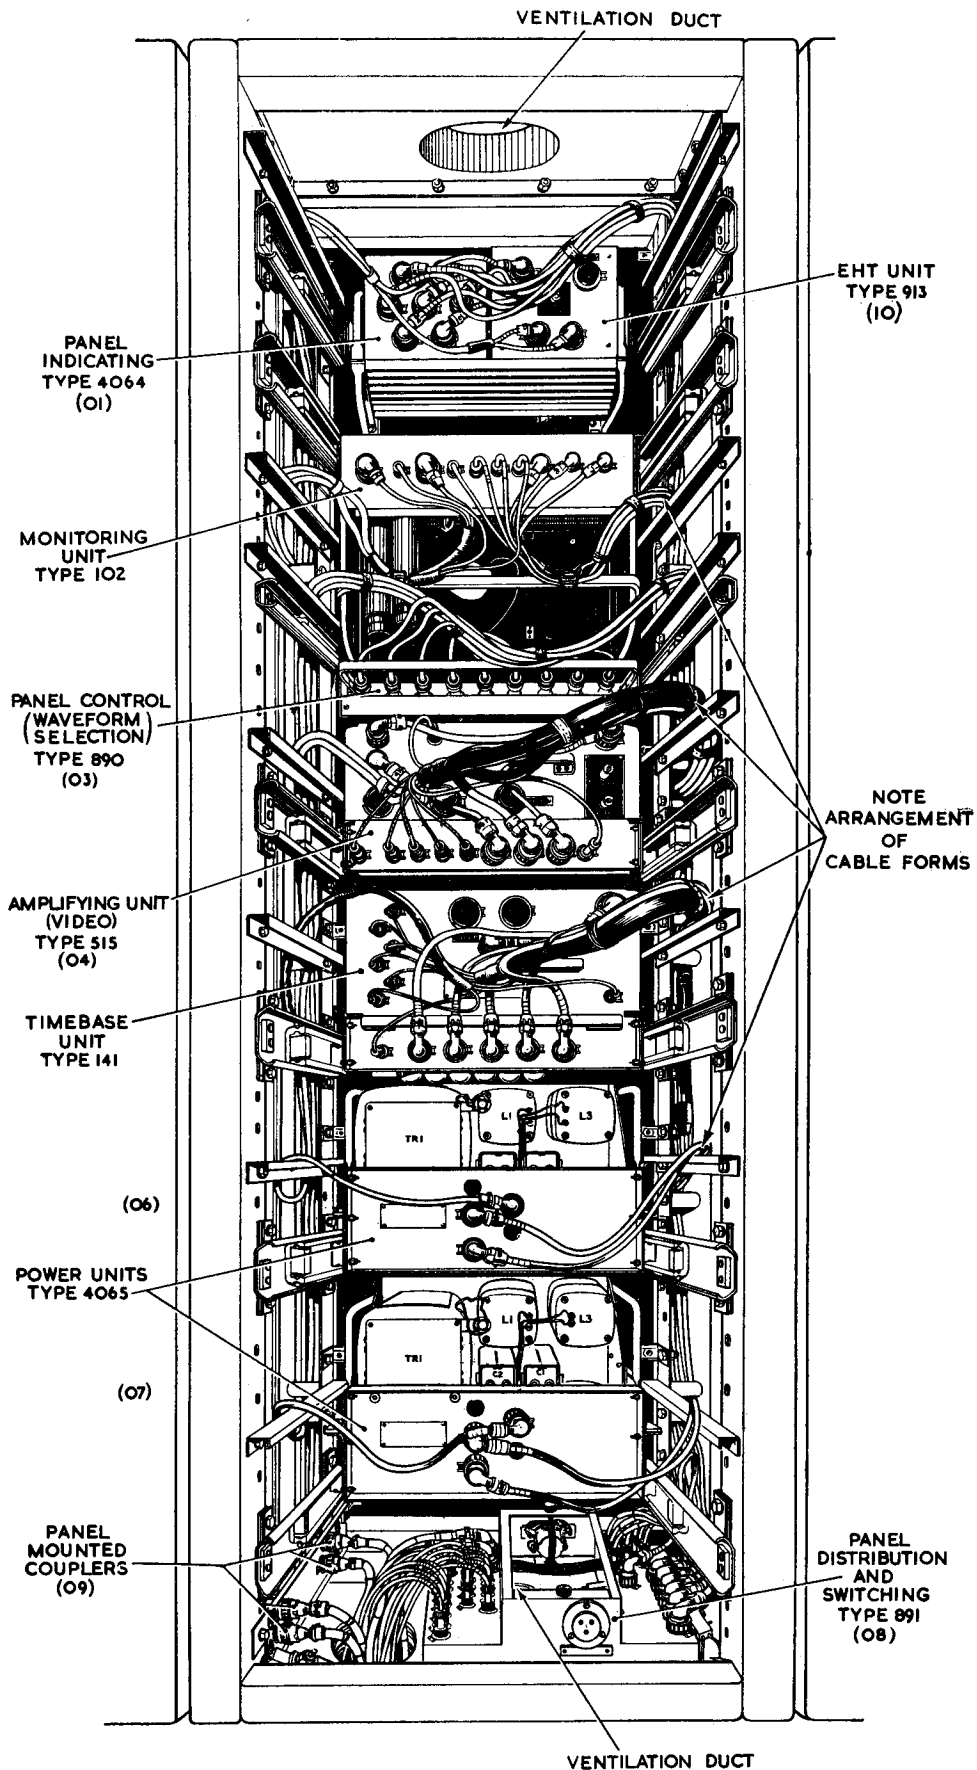
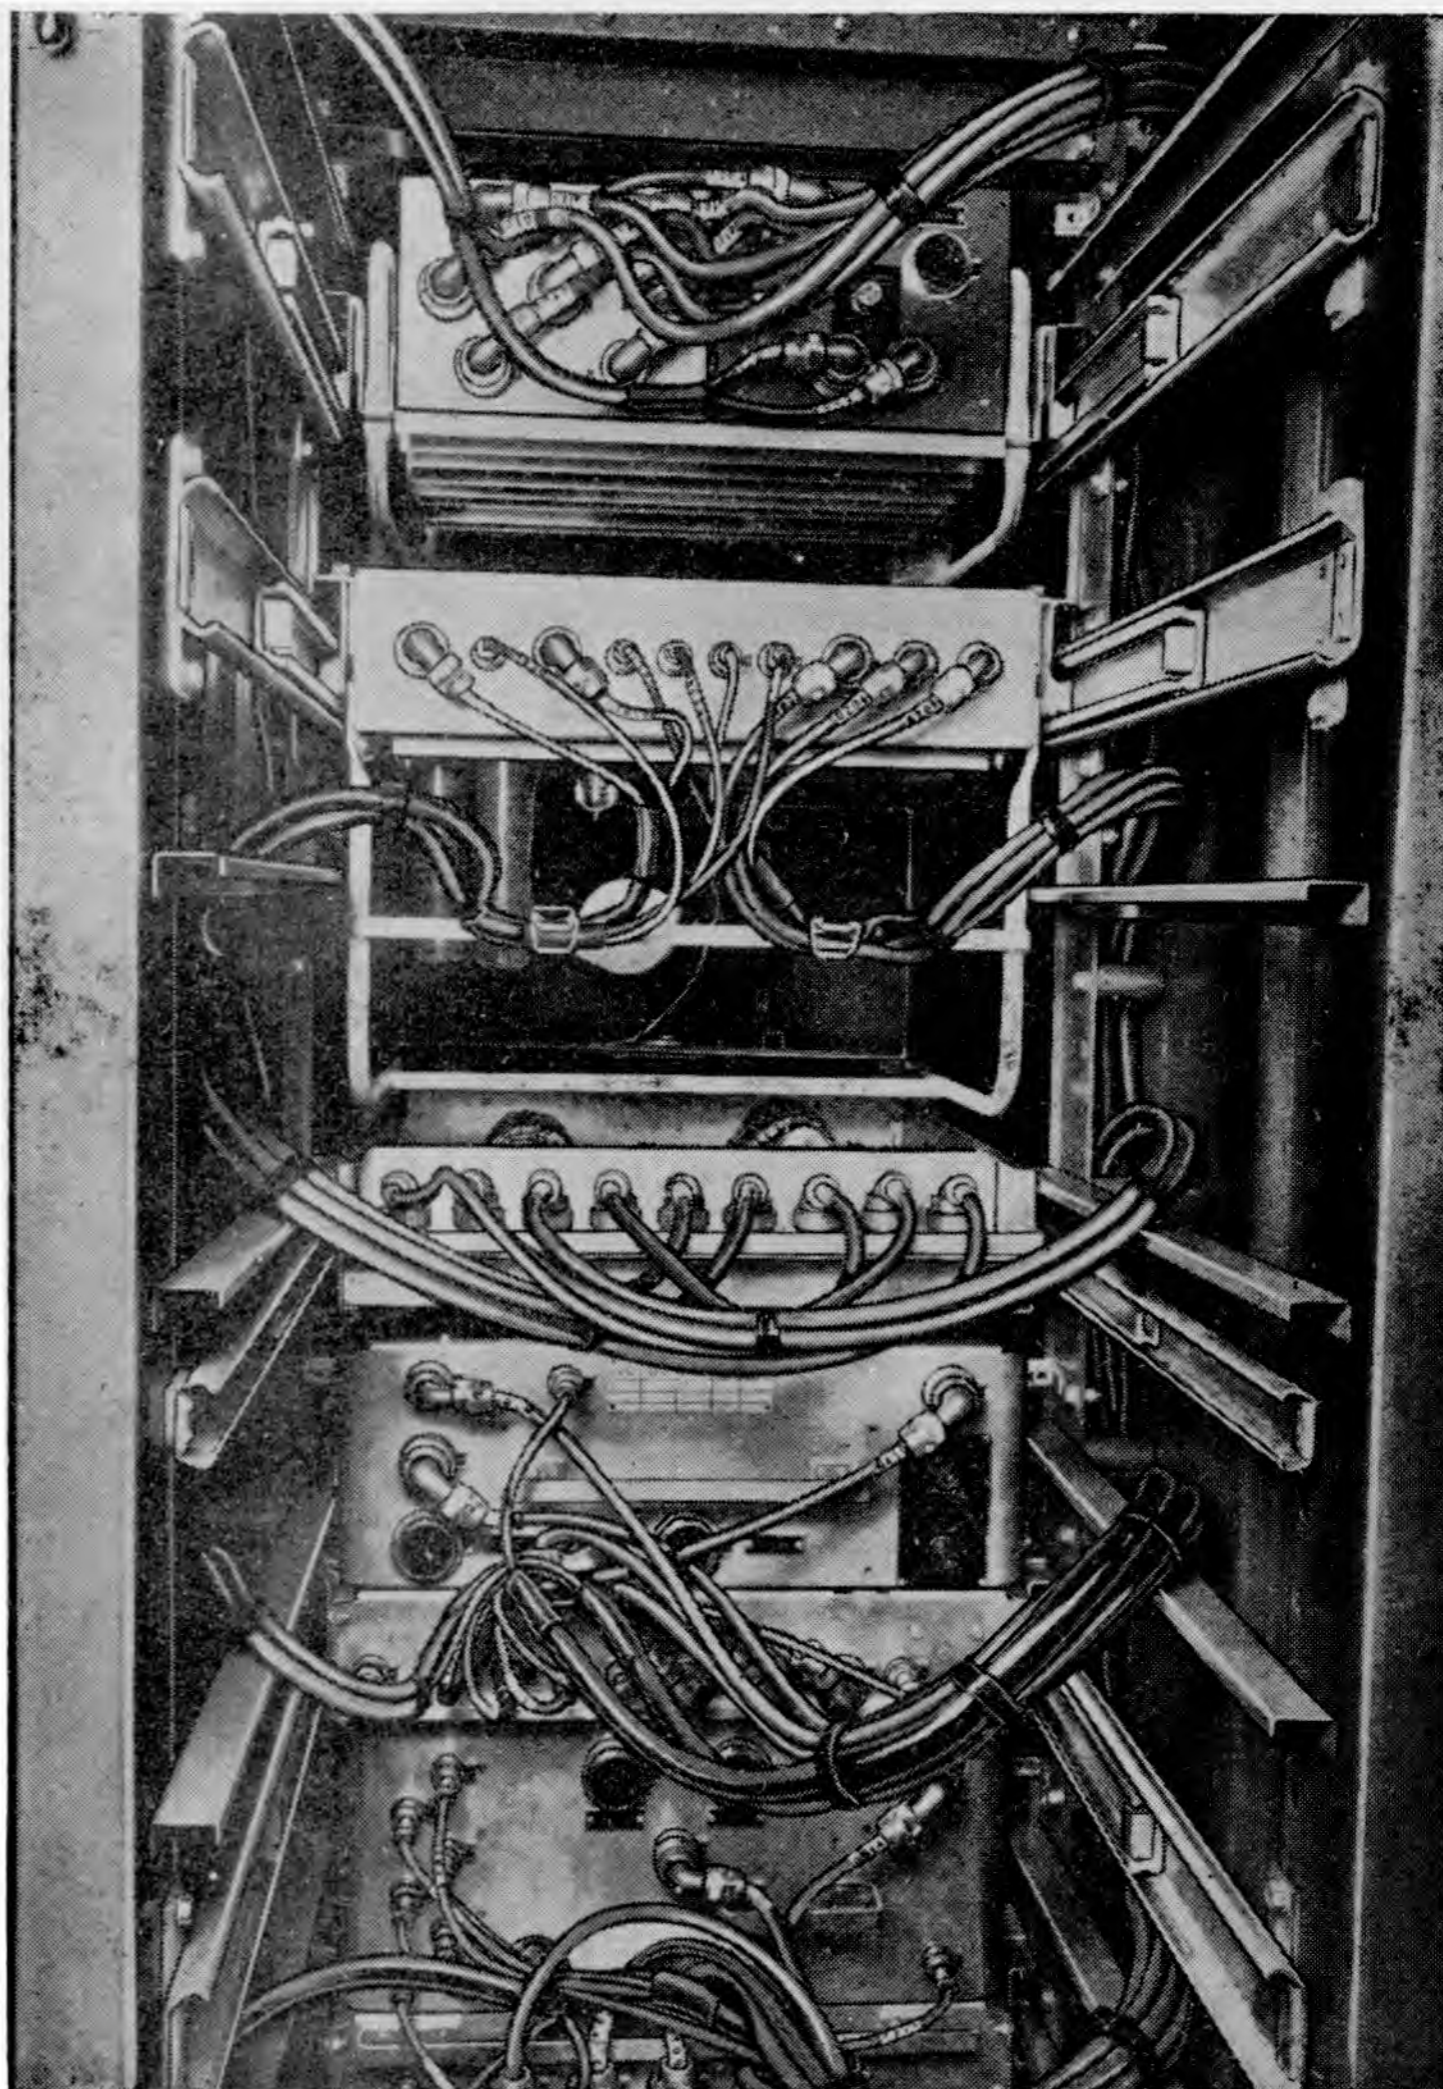
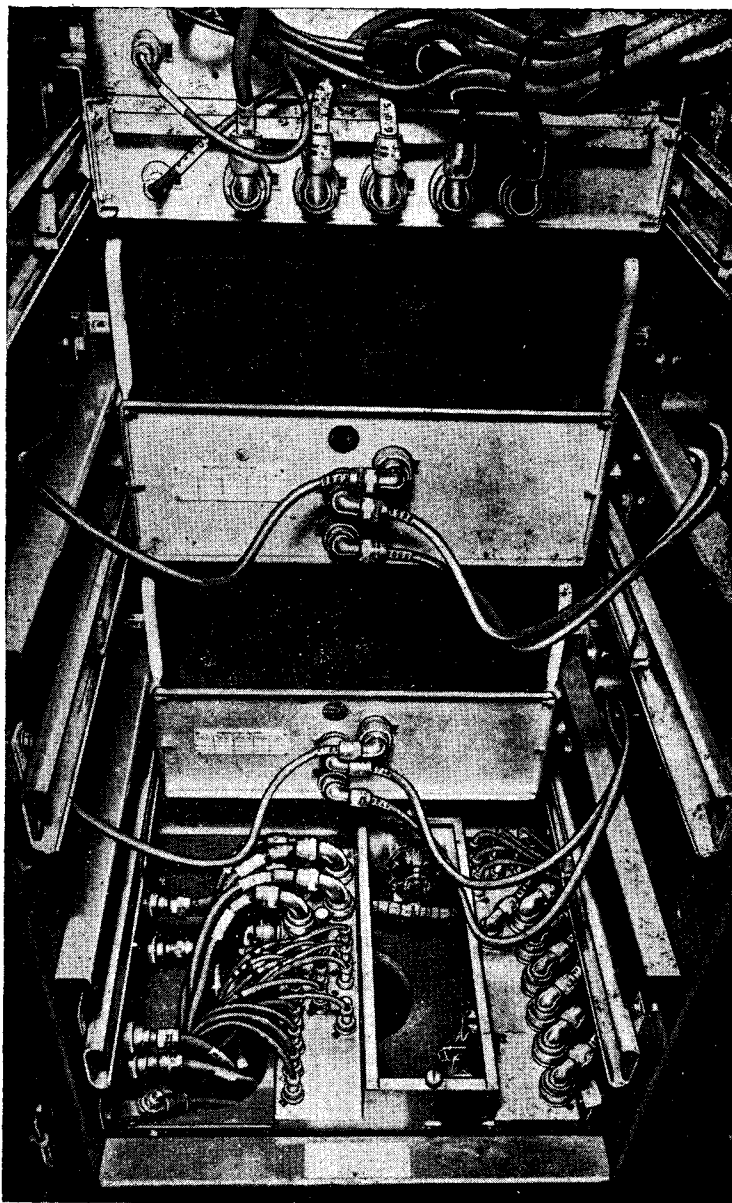

Fig. 1. Rack assembly Type 339—general view from rear
Fig. 2. RA339—upper units withdrawn
Fig. 3. RA339—lower units withdrawn
8. With units possessing more connectors, more care is needed to ensure that the cables do not trap each other and so cause kinks and strains which would damage the cables. Whether or not the cables slide over each other easily can generally be observed by pulling the units in and out a few times, but, in the case of the rack assembly Type 339, which has more elaborate cableforms than the other racks, illustrations have been prepared to show the best way of arranging the cables (*fig. 1 to 6*).
9. Apart from the distribution panel Type 891, which is secured to the base of the rack by two screws (*fig. 3*), the units are mounted directly on to flanges attached to the runners. Before the units can be slid out on the runners, the front panel fixing screws must be removed. *Fig. 1* gives a general view of the rack from the rear, with the units fully withdrawn, for identification of the units. *Fig. 2* gives a close-up view of the units in the upper half of the rack and *fig. 3* gives a similar view of the lower half. It will be observed that, with the units fully withdrawn, there is ample length of cable and no straining occurs.